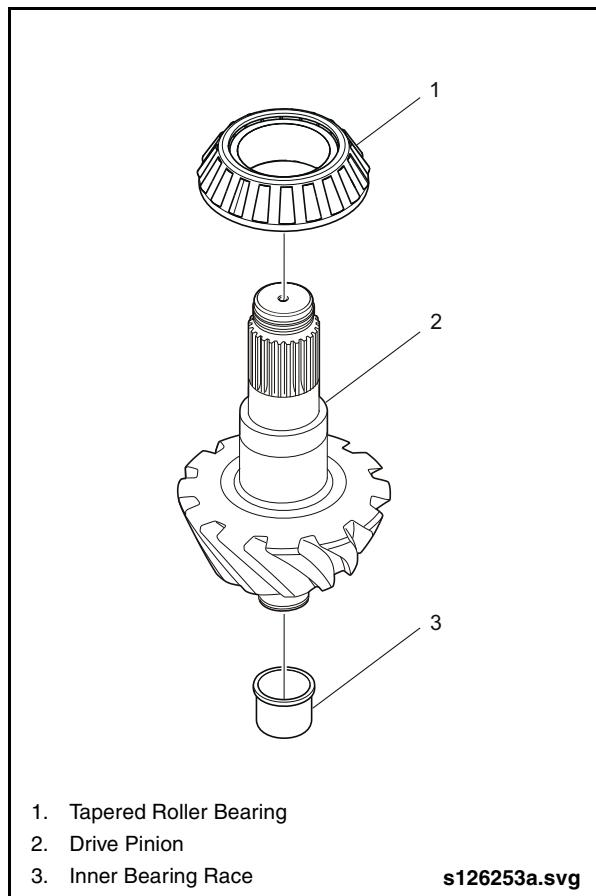

Fig. 2-97: Mounting Inner Tapered Roller Bearing & Inner Race
2. Install the tapered roller bearing on the drive pinion gear, ensuring it is fully seated. See "Fig. 2-97: Mounting Inner Tapered Roller Bearing & Inner Race" on page 79.